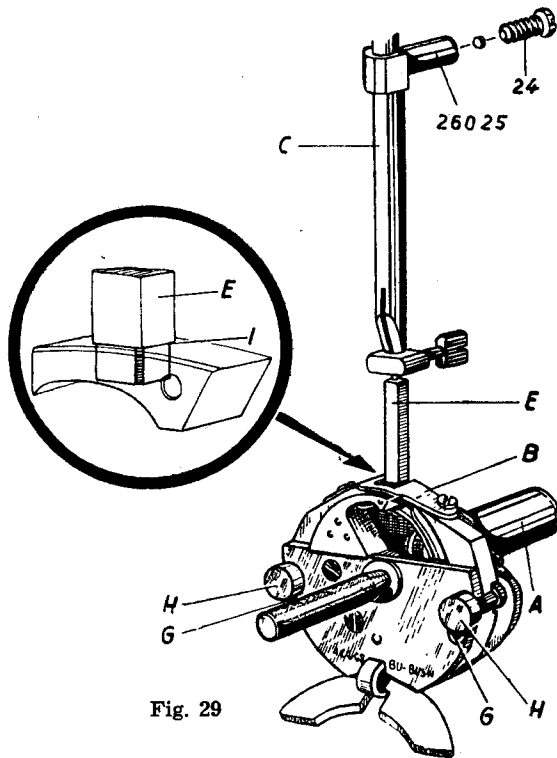

Fig. 29
- a. Loosen slightly the screw No. 24 of the needle bar connecting stud No. 26025 (Fig. 29).
**1 - Insertion of the Timing Gauge No. AC 4/68 and of the Square-angled Bar E. (Fig. 29).**
- c. Insert bar « E » (Fig. 29) of the gauge into the needle bar, following the same instructions as for the insertion of a needle.
If, by pushing down the needle bar by hand while the balance wheel is held firmly, the lower end of the bar « E » enters exactly into the rectangular hole in the prong of the gauge No. AC 4/68 (Fig. 29), then the requirements of paragraphs II, III, and IV have been satisfied. In order to comply also with the requirements of paragraph I, push the step « I » of the bar « E » until it stops against the outside of the gauge No. AC 4/68 (Fig. 29).
- l. Push the step « I » of the bar « E » by hand (Fig. 29) until it stops against the outside of the gauge.